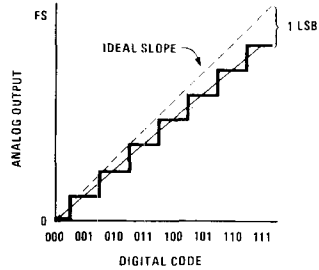
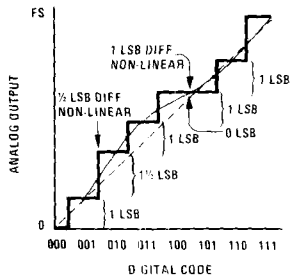
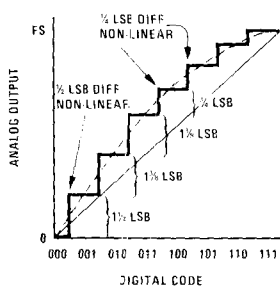
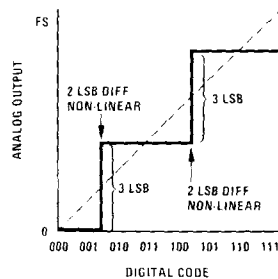

FIGURE 4. Linear, 1 LSB Scale Error
FIGURE 6.  $\pm\frac{1}{2}$  LSB Non-Linearity (Implies 1 LSB Possible Error), 1 LSB Differential Non-Linearity (Implies Monotonicity)
FIGURE 7.  $1\frac{1}{2}$  LSB Non-Linear,  $\frac{1}{2}$  LSB Differential Non-Linearity
FIGURE 8.  $\pm 1$  LSB Linear,  $\pm 2$  LSB Differential Non-Linear
**Scale Error** (full scale error) is the departure from design output voltage of a DAC for a given input code, usually full-scale code. (See figure 4.) In an ADC it is the departure of actual input voltage from design input voltage for a full-scale output code. Scale errors can be caused by errors in reference voltage, ladder resistor values, or amplifier gain, *et. al.* (See **Temperature Coefficient**.) Scale errors may be corrected by adjusting output amplifier gain or reference voltage. If the transfer curve resembles that of figure 7, a scale adjustment at  $\frac{1}{4}$  scale could improve the overall  $\pm$  accuracy compared to an adjustment at full scale.
Figure 6 shows a 3-bit DAC transfer curve with no more than  $\pm\frac{1}{2}$  LSB non-linearity, yet one step shown is of zero amplitude. This is within the specification, as the maximum deviation from the ideal straight line is  $\pm 1$  LSB ( $\frac{1}{2}$  LSB resolution error plus  $\frac{1}{2}$  LSB non-linearity). With any linearity error, there is a differential non-linearity (see below). A  $\pm\frac{1}{2}$  LSB linearity spec guarantees monotonicity (see below) and  $\leq \pm 1$  LSB differential non-linearity (see below). In the example of figure 6, the code transition from 100 to 101 is the worst possible non-linearity, being the transition from 1 LSB high at code 100 to 1 LSB low at 110. Any fractional non-linearity beyond  $\pm\frac{1}{2}$  LSB will allow for a non-monotonic transfer curve. Figure 7 shows a typical non-linear curve; non-linearity is  $1\frac{1}{2}$  LSB yet the curve is smooth and monotonic.
**Differential Non-Linearity** indicates the difference between actual analog voltage change and the ideal (1 LSB) voltage change at any code change of a DAC. For example, a DAC with a 1.5 LSB step at a code change would be said to exhibit  $\frac{1}{2}$  LSB differential non-linearity (see figures 6 and 7). Differential non-linearity may be expressed in fractional bits or in % FS.
Differential linearity specs are just as important as linearity specs because the apparent quality of a converter curve can be significantly affected by differential non-linearity even though the linearity spec is good. Figure 6 shows a curve with a  $\pm\frac{1}{2}$  LSB linearity and  $\pm 1$  LSB differential non-linearity while figure 7 shows a curve with  $+1\frac{1}{2}$  LSB linearity and  $\pm\frac{1}{2}$  LSB differential non-linearity. In many user applications, the curve of figure 7 would be preferred over that of figure 6 because the curve is smoother. The differential non-linearity spec describes the smoothness of a curve; therefore it is of great importance to the user. A gross example of differential non-linearity is shown in figure 8 where the linearity spec is  $\pm 1$  LSB and the differential linearity spec is  $\pm 2$  LSB. The effect is to allow a transfer curve with grossly degraded resolution; the normal 8-step curve is reduced to 3 steps in figure 8. Similarly, a 16-step curve (4-bit converter) with only 2 LSB differential non-linearity could be reduced to 6 steps (a 2.6-bit converter?). The real message is, "Beware of the specs." Do not ignore or omit differential linearity characteristics on a converter unless the linearity spec is tight enough to guarantee the desired differential linearity. As this characteristic is impractical to measure on a production basis, it is rarely, if ever, specified, and linearity is the primary specified parameter. Differential non-linearity can always be as much as twice the non-linearity, but no more.